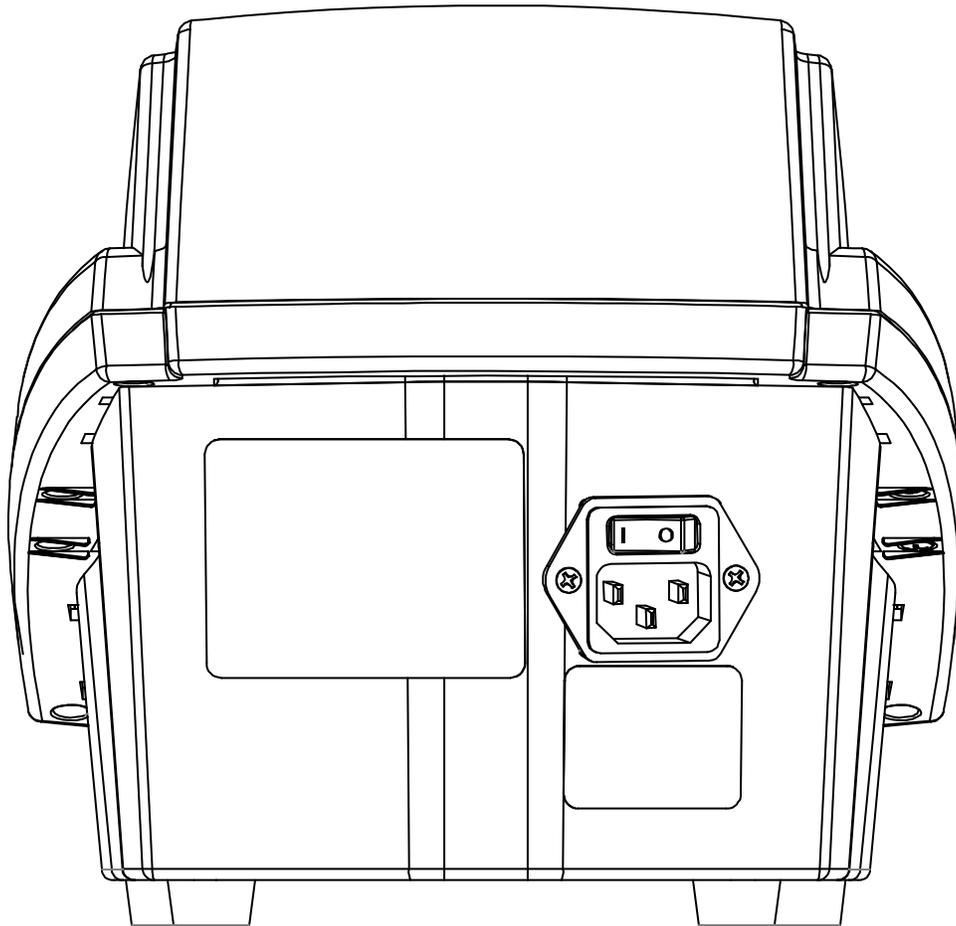

Figure 3.1 – Sys\*Stim 228, Back view – Mains Power Switch and Line cord connection
1. Connect the line cord to the back of the Sys\*Stim 228. (See Figure 3.1)